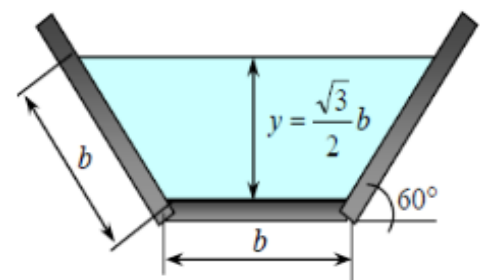

Figure-3
- a) Rectangular and b) Trapezoidal as shown in Figure-3